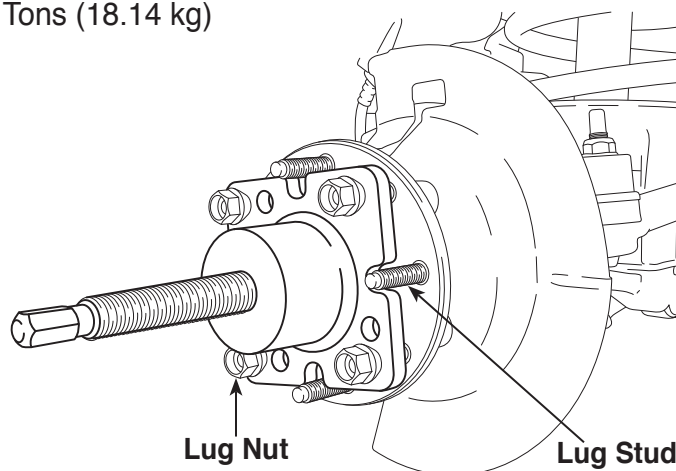

Figure 1
3. Align the bolt holes in the puller with the lug studs on the hub assembly as shown in Figure 1. Reinstall the four lug nuts to hold the puller on the wheel hub.